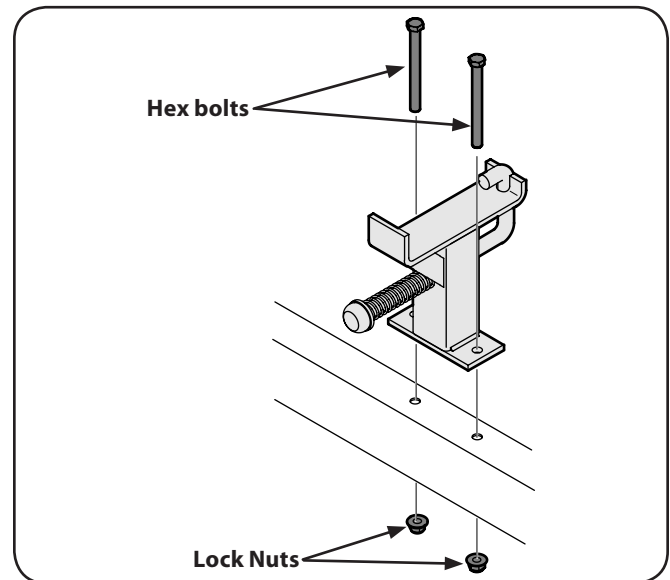

Figure 3-3
2. Place the beam support/latch bracket on the tongue and secure it with the hex bolts and lock nuts previously removed. Tighten Securely. See Fig. 3-3.